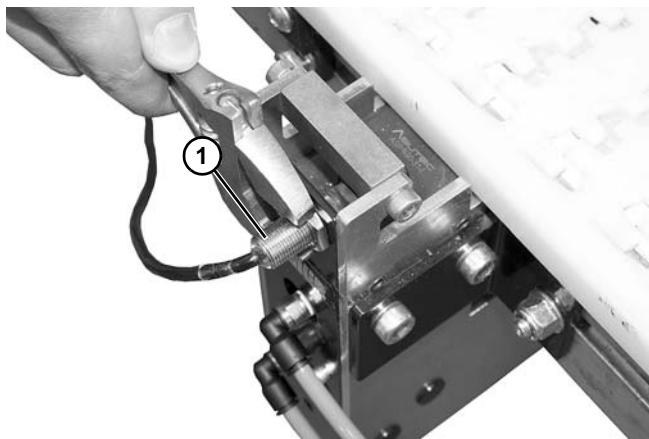

Figure 58
2. Remove pallet proximity sensor (**Figure 58, item 1**).